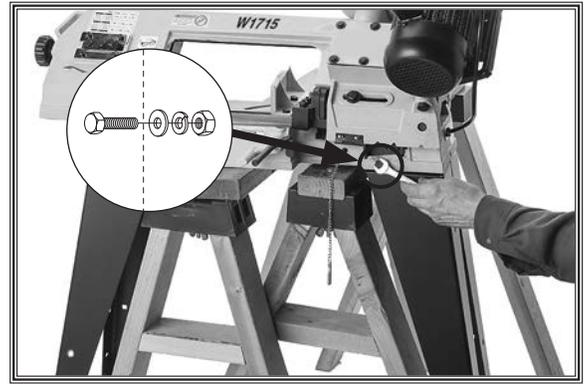

Figure 5. Attaching legs to bandsaw.
2. With help of an assistant, lift bandsaw onto a pair of closely spaced sawhorses or other suitable support (see **Figure 5**).
3. Attach legs to bandsaw with (8) M8-1.25 x 25 hex bolts, (8) 8mm flat washers, (8) 8mm lock washers, and (8) M8-1.25 hex nuts (see **Figure 5**).